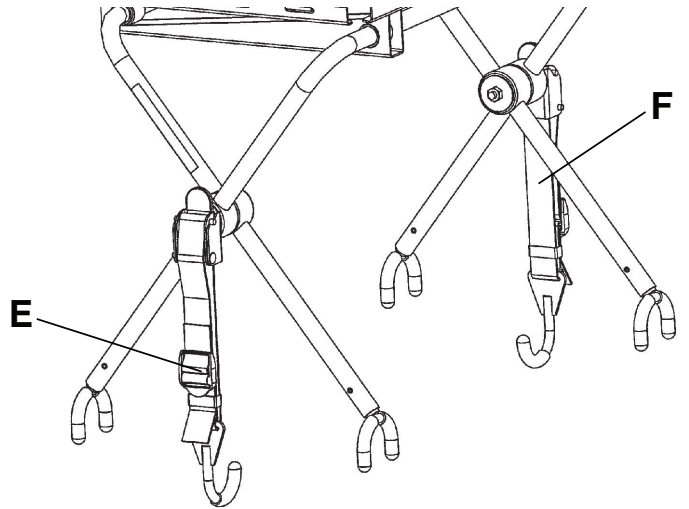

Figure 31 – Attach defibrillator platform to the cot
9. Secure the straps (E) to hold the defibrillator on the defibrillator platform (Figure 31).